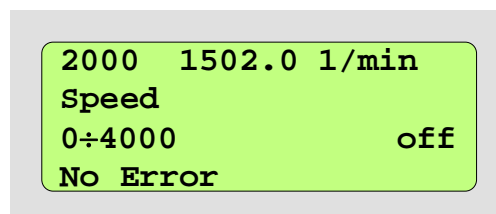

Figure 1: LCD in Programmer Mode
- in Programmer Mode; for this mode refer to section ↑ 4.2 Programmer Mode, configuration of the display as in Figure 1,